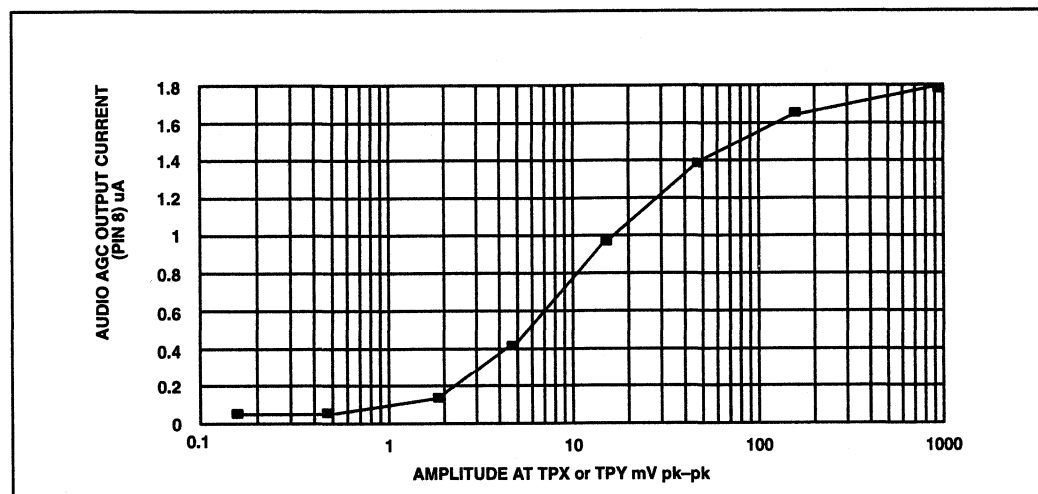
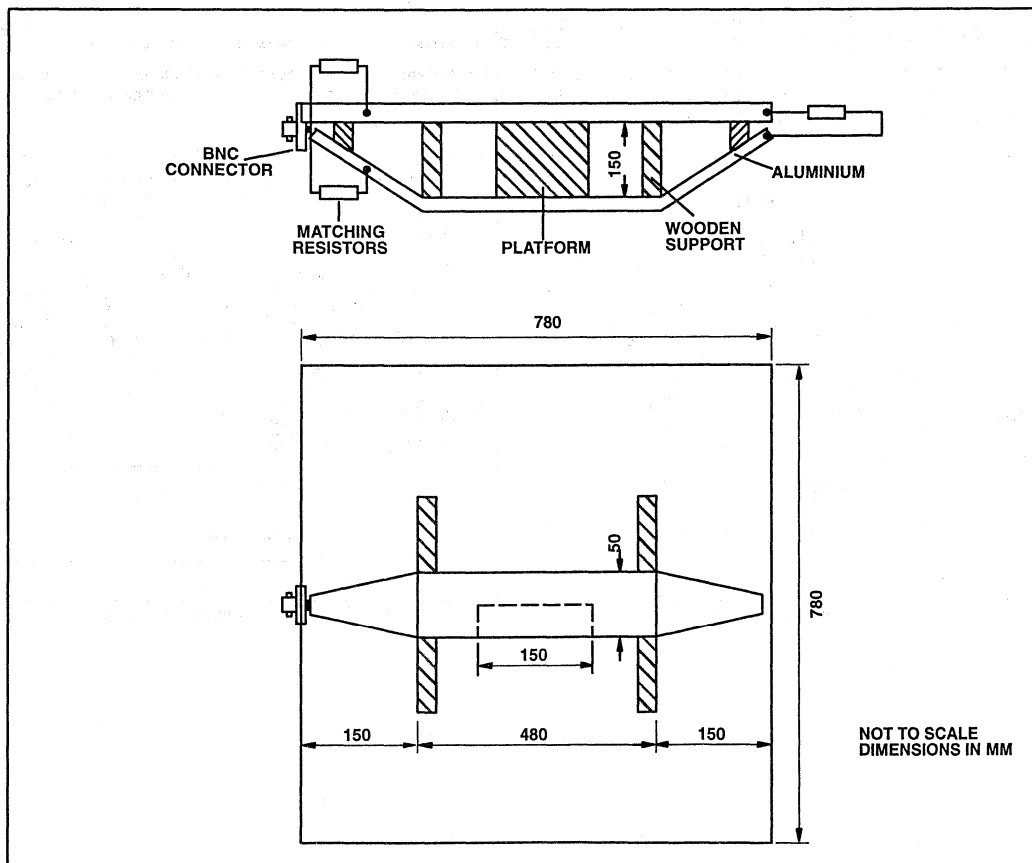

Fig. 8 RSSI Audio AGC vs Signal level at TPX or TPY
Fig. 7 Overall sensitivity measurement TEM cell
Absolute pager sensitivity in terms of  $\mu\text{V/m}$  cannot easily be measured without the use of a screened enclosure and a calibrated field strength meter. The pager demonstration board was evaluated in a TEM cell whose detail is shown in Fig. 7. Measurements were carried out by comparing the demonstration pager sensitivity with other commercial pager of known absolute sensitivity. Fig. 8 shows the measurement set-up.
f) Encode the signal generator with a POCSAG encoder as illustrated in Fig. 8. Orientate the pager board within the TEM cell until the most sensitive position is obtained. Reduce the signal generator output level until 4 out of 5 calls are correctly received by the pager. This is the overall sensitivity of the pager measured in this particular TEM cell. Relative performance can be obtained by carrying out similar measurement on other pagers with known sensitivity.